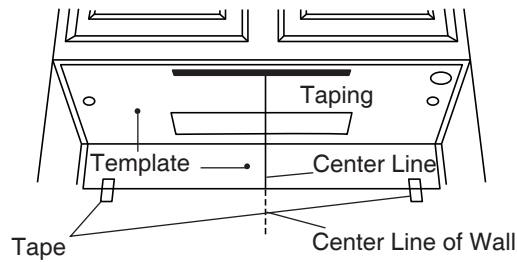

Fig. 2-3
3. Fold the template along the dotted line on the rear wall. Align the center line with center line on the wall and the top cabinet. Tape the template to the underneath of top cabinet and the wall. (Fig. 2-3)